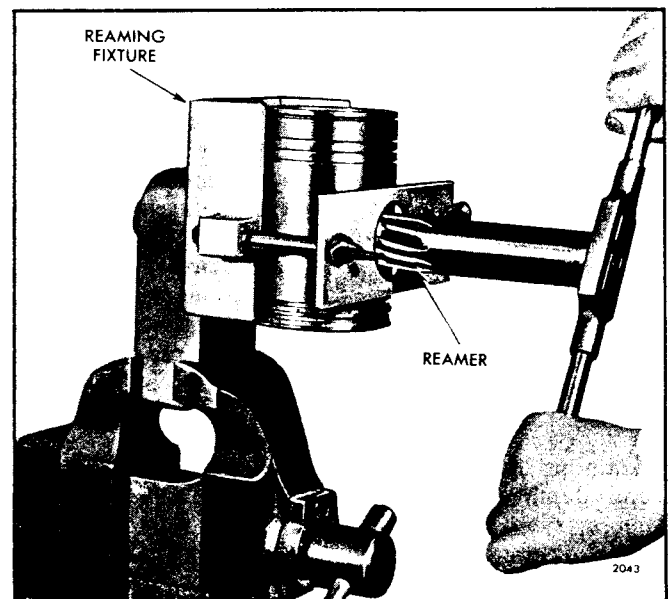

Fig. 7 - Reaming Piston Pin Bushings
1. Clamp the reaming fixture J 5273 in a vise (Fig. 7), then insert the guide bushing J 4970-5 in the fixture and secure it with the set screw.